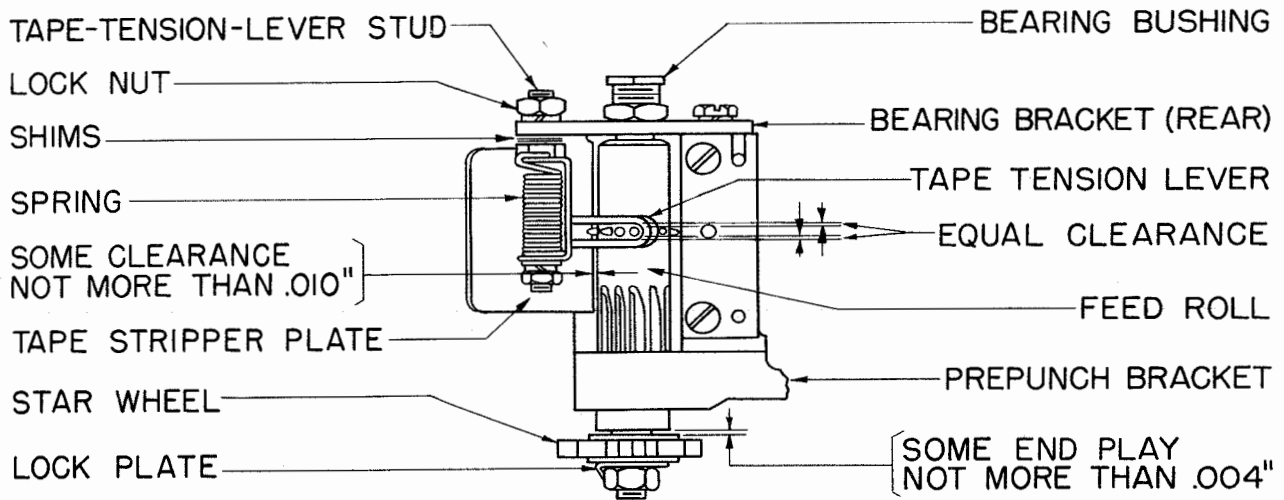

Figure 45
2.76 Prepunch Feed-roll Bearings: The feed roll shall be free in its bearings with some endplay, not more than indicated in Figure 45, with the feed-roll detent, the feed pawl, and the tape-tension lever held clear of the feed roll.
2.86 Tape-stripper Plate: There shall be some clearance, not more than as indicated in Figure 45, between the upper edge of the tape-stripper plate and the feed roll. Check throughout one complete revolution of the feed roll.